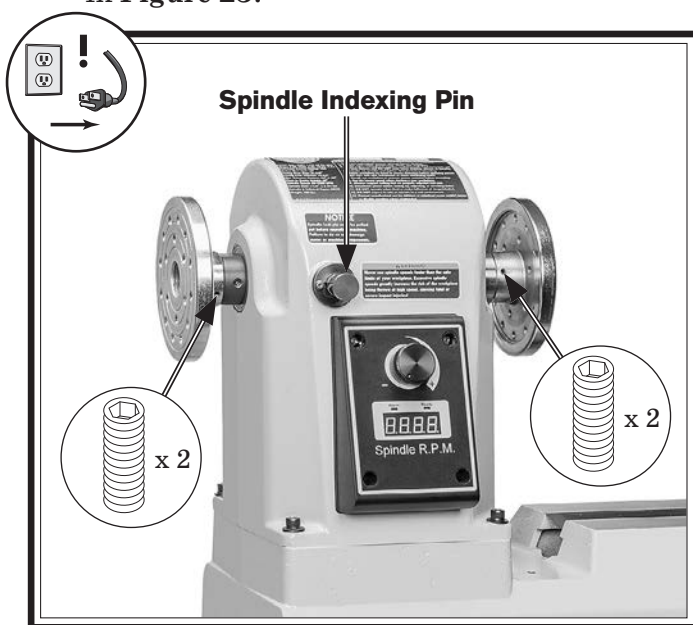

Figure 23. Faceplates installed on spindle shaft.
2. Engage spindle indexing pin on headstock (see **Figure 23**).
3. Loosen (2) set screws on faceplate, as shown in **Figure 23**.
3. Loosen (2) set screws on faceplate, then thread faceplate clockwise onto spindle shaft until faceplate is secure against shoulder on spindle shaft (see **Figure 23**).
4. Tighten (2) set screws on faceplate to secure.